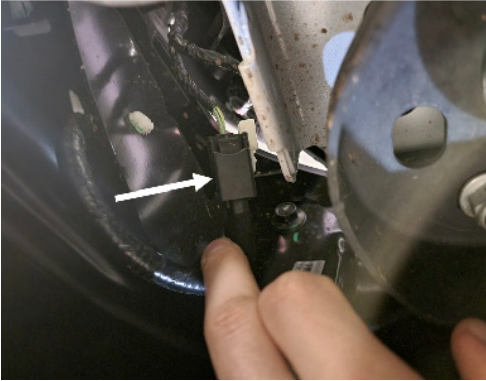

Figure 1
1. Unplug the wiring harness located on the driver side of the vehicle between the frame and the bumper. Figure 1.